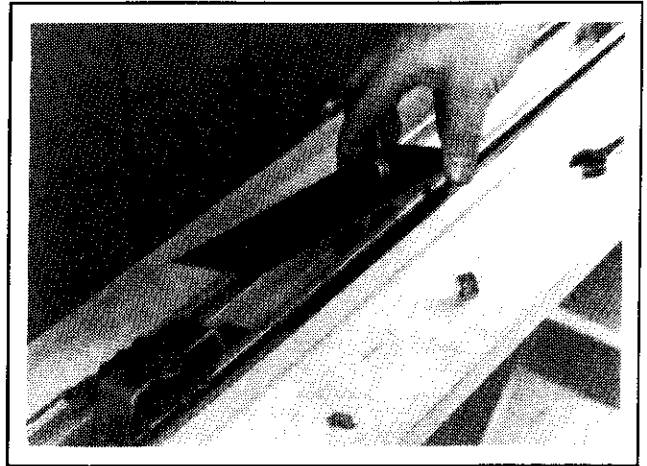

Figure 11. Removing Push Spring
e. Disconnect the chain from the follower of the damaged cable. Then, remove the cable-spring and follower through the elongated slot in the chain track extrusion (figure 11).
h. Place a 2-3/4" x 8" 11 gauge steel plate (figure 11) part no. 1900694 over slot in chain track, if one wasn't there originally. This plate keeps the spring from jamming or kinking at the slot. If the plate was not installed, check other end and install plate if missing.